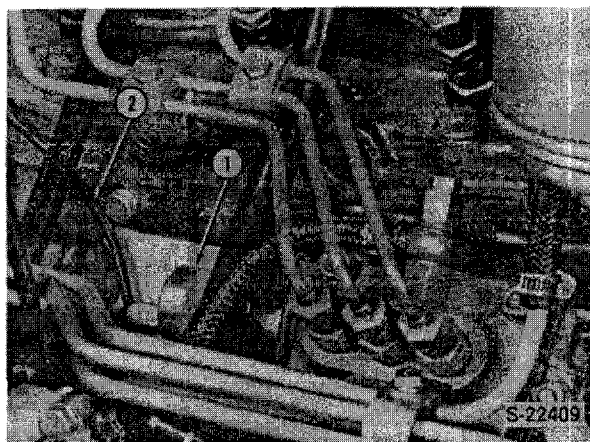

Figure 31
2. Disconnect the wire (2) and remove the fuel shut-off solenoid (1), Figure 31.